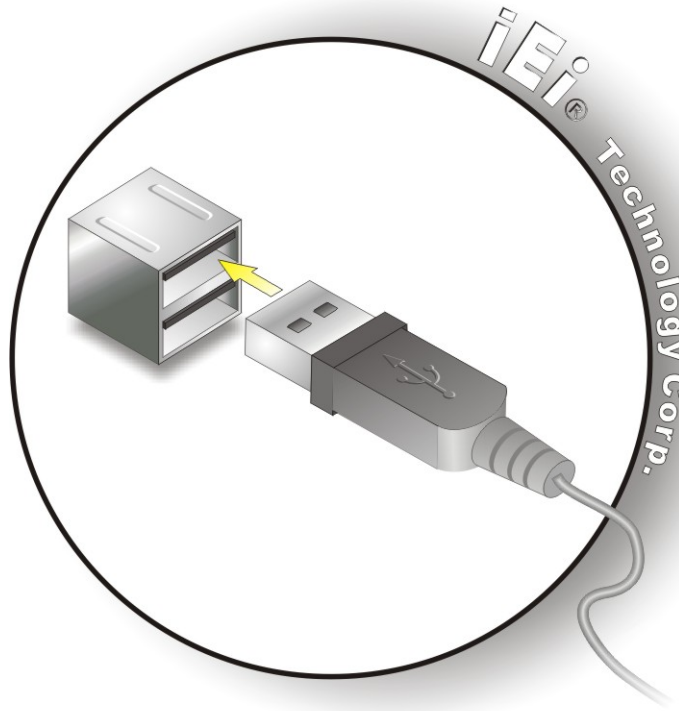

Figure 5-17: USB Connector
Step 2: Insert a **USB Series "A" plug**. Insert the USB Series "A" plug of a device into the USB Series "A" receptacle on the external peripheral interface. See Figure 5-17.